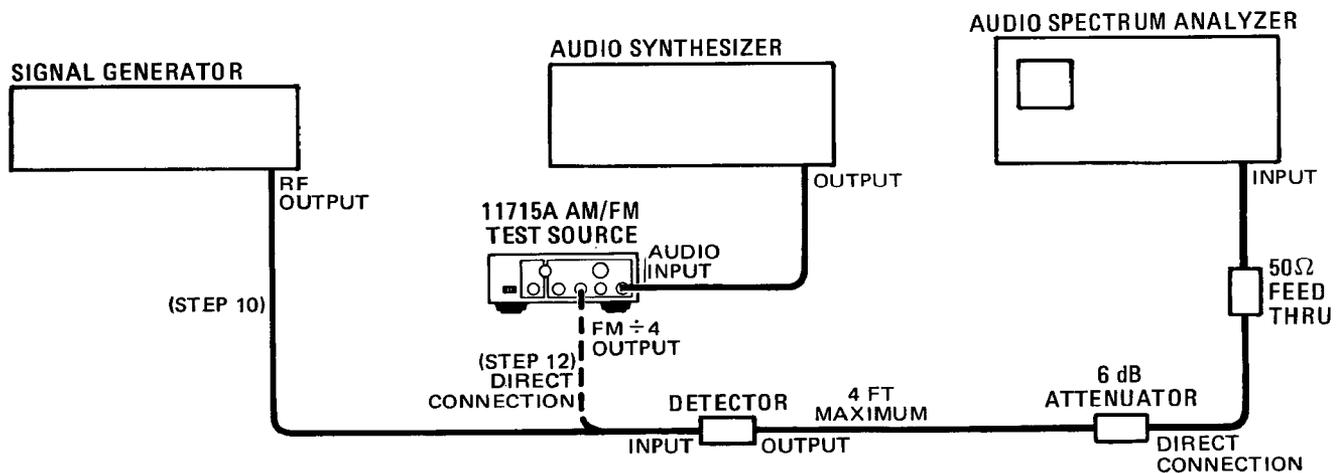

Figure 4-5. Incidental AM Test Setup
10. Without altering any of the settings of the equipment now set up, connect the equipment as shown in Figure 4-5. Connect the  $50\Omega$  feed thru directly (no cable) to the spectrum analyzer's input. Connect the 6 dB attenuator directly to the feed thru.